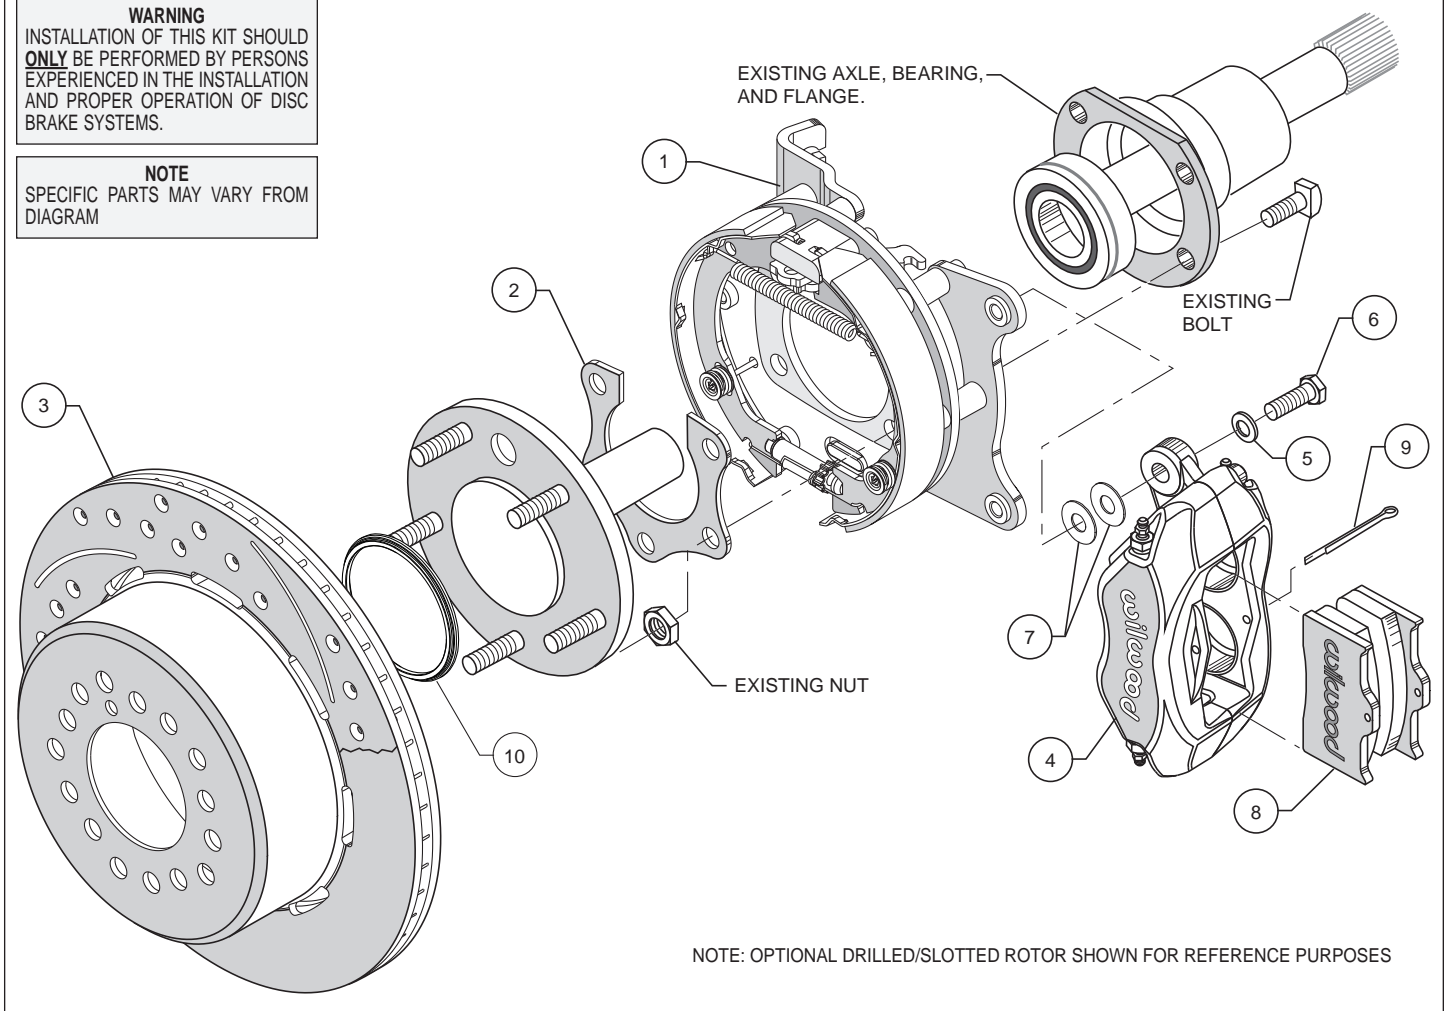
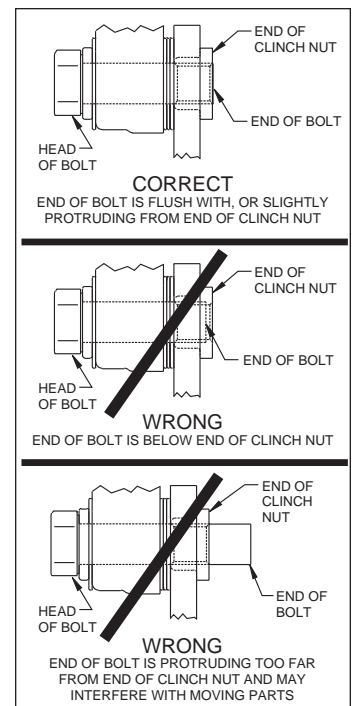

Figure 3. Typical Installation Configuration
Figure 7. Clinch Nut Engagement Diagram
**Assembly Instructions** (numbers in parenthesis refer to the parts list, and Figure 3 on the preceding pages): **CAUTION:** All mounting bolts must fully engage clinch nuts. Be sure to check that all bolts are either flush or protruding through flanged side of clinch nut after shimming, Figure 7.
• Determine that the appropriate snap ring style Green bearing has been installed on the axle, as shown in Figure 2. Orient the bracket assembly (1) as shown in Figure 3 and Photo 1 and slide it onto the axle. Insert the axle and bracket into the axle housing. Ensure that the bracket assembly backing plate fits flush against the axle housing flange.
• Install the bearing retainer (2) with the opening pointing upward and the relief step facing inward (toward the bearing), as shown in Figures 3 and 6, and Photo 2. Secure retainer and bracket assembly to the axle housing flange using the Original Equipment Manufacturer (OEM) bolts and nuts, Figure 3. Apply red *Loctite*® 271 to the OEM bolt threads and torque to OEM specifications.
• Slide the rotor registration adapter (10) onto the axle register on the axle flange with the smaller O.D. facing toward the rotor/hat (3), Photo 3. Align the correct hole pattern in the rotor/hat with the stud pattern on the axle flange and slide into place, Figure 3 and Photo 4. **NOTE:** The rotor/hat must fit flush against the axle flange or excessive rotor run out may result. Install three lug nuts (finger tight) to keep the rotor/hat assembly in place while continuing with the installation. **NOTE:** Some OEM and after market axles come with stud sizes larger than 0.50" diameter. Verify stud size and have a qualified machine shop drill the bolt circle of the hat/rotor to the correct stud size, if necessary.
• **NOTE:** Please reference the caution statement at the beginning of the assembly instructions. Mount the caliper (4) onto the caliper mounting bracket (1) using bolts (6) and washers (5), as shown in Figure 3. Initially place two .035" thick shims (7) on each bolt between the caliper and the bracket, Photo 5. Temporarily tighten the mounting bolts and view the rotor (3) through the top opening of the caliper. The rotor should be centered in the caliper, Photo 6. If not, adjust by adding or subtracting shims between the bracket and the caliper. Always use the same amount of shims on each of the two mounting bolts. **NOTE:** The end of each bolt must be flush with or slightly protruding from the head of the clinch nut, as shown in Figure 7. If necessary place spare shims between washer (5) and caliper mounting ear to achieve the proper clinch nut engagement. Once the caliper alignment and clinch nut engagement are correct, remove the bolts one at a time, apply red *Loctite*® 271 to bolt threads, and torque to 40 ft-lb.